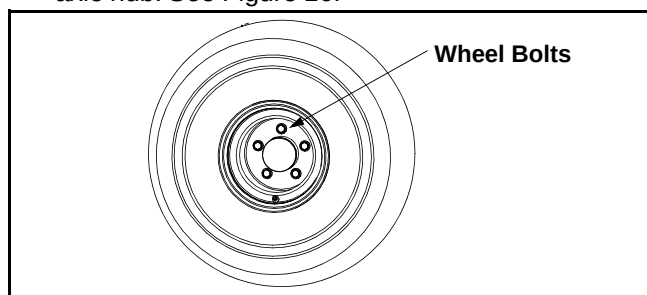

Figure 16
- Loosen but do not remove the five lug nuts from the axle hub. See Figure 16.